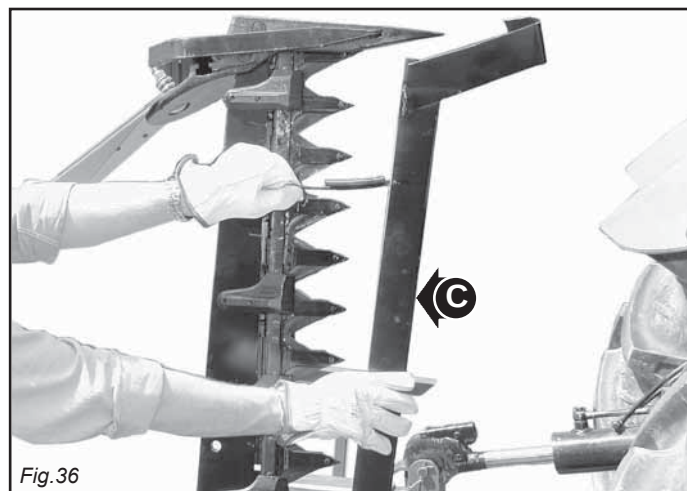

Fig.36
- Fit the guards over the cutters and outer skid (C, Fig. 36)